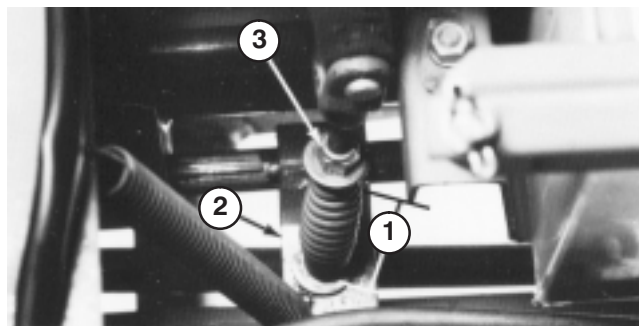

Figure 52
3. Measure length of PTO spring between flat-washers (Fig. 52). There should be a spring length of 3-3/16 in. (81 mm).
4. To adjust, hold head of adjusting screw with wrench (under PTO actuating arm) and turn locknut (Fig. 52).